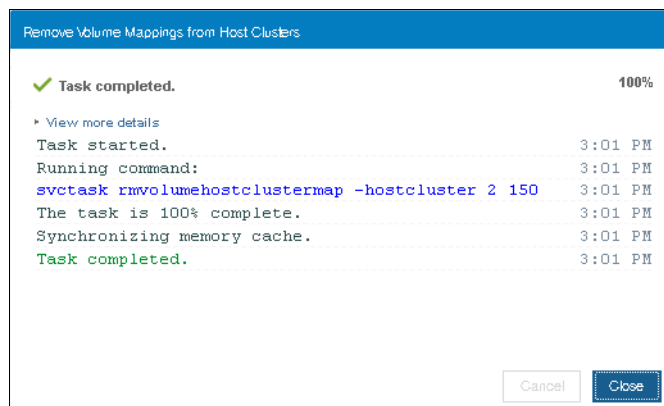

Figure 5-100 Volume unmapping from Host Cluster completed
- Click **Remove Volumes**. A window with **Task Completed** message will be shown as in Figure 5-100.